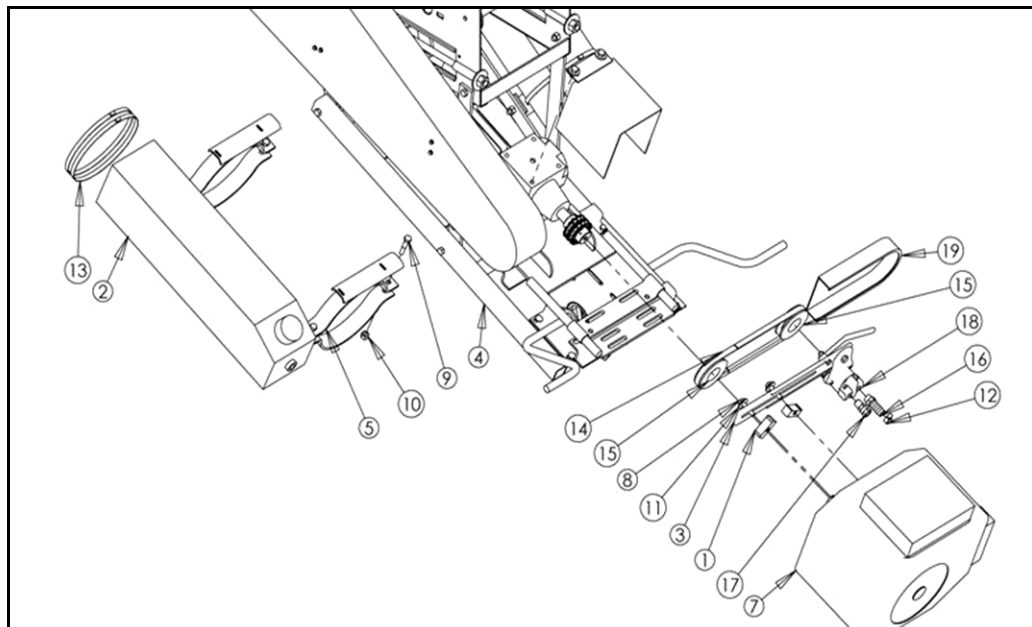
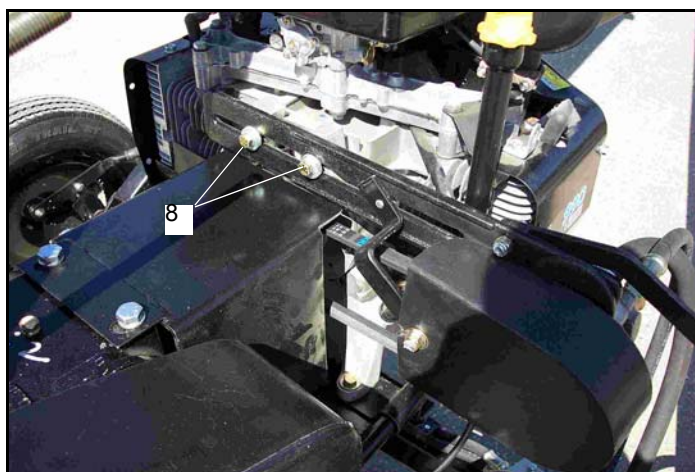

Figure 3.15
Figure 3.16
1. Mount small pump mount (3) on gas motor (7) with spacers (1), bolts (8), and flat washers (11), as shown in Figure 3.15. Do not tighten. See "Gear Pump Mount & Guard" on page 37 for details.
2. Attach pump (18) to mount (3).
4. Install pulley (15) and belt (14) on drive motor shaft. Install motor on mount and connect to gearbox.
5. Install second pulley (15) on pump and connect belt.
6. With over-center handle disengaged, set position of pump mount so that belt is partially loose. Engage over-center handle, belt should be tight. Secure bolts (8). See Figure 3.16.